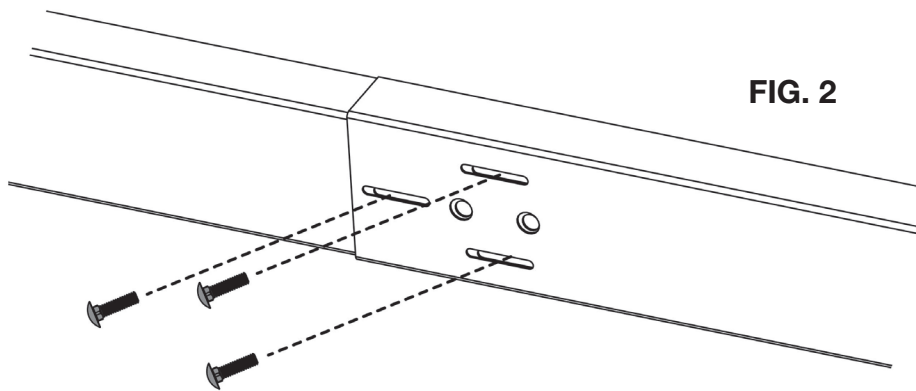

FIG. 2
2. Insert the 3 supplied bolts (Type 2) through the 3 slots (FIG. 2).